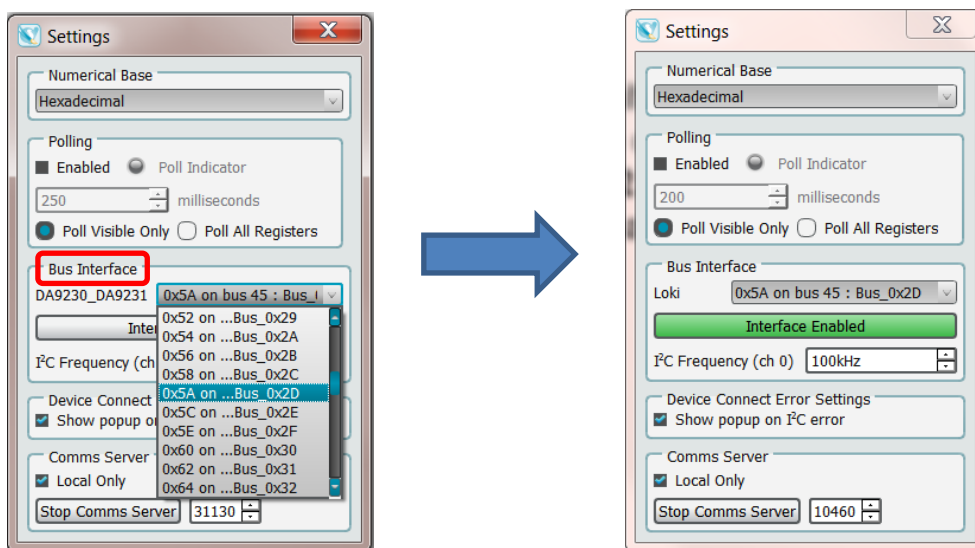

Figure 8: Example of Re-configure GUI I²C address
2. In the Settings window, go to Bus Interface. See Figure 8. The default I²C address is “0x5E on bus 47 : Bus_0x2F”. Select the correct I²C address from the drop-down list based on device OTP versions. For example: Select “0x5A on bus 45 : Bus_0x2D” for DA9231_0DVZ2. Then make sure “Interface Enabled” is highlighted. The GUI I²C address is selectable from 00-7F.